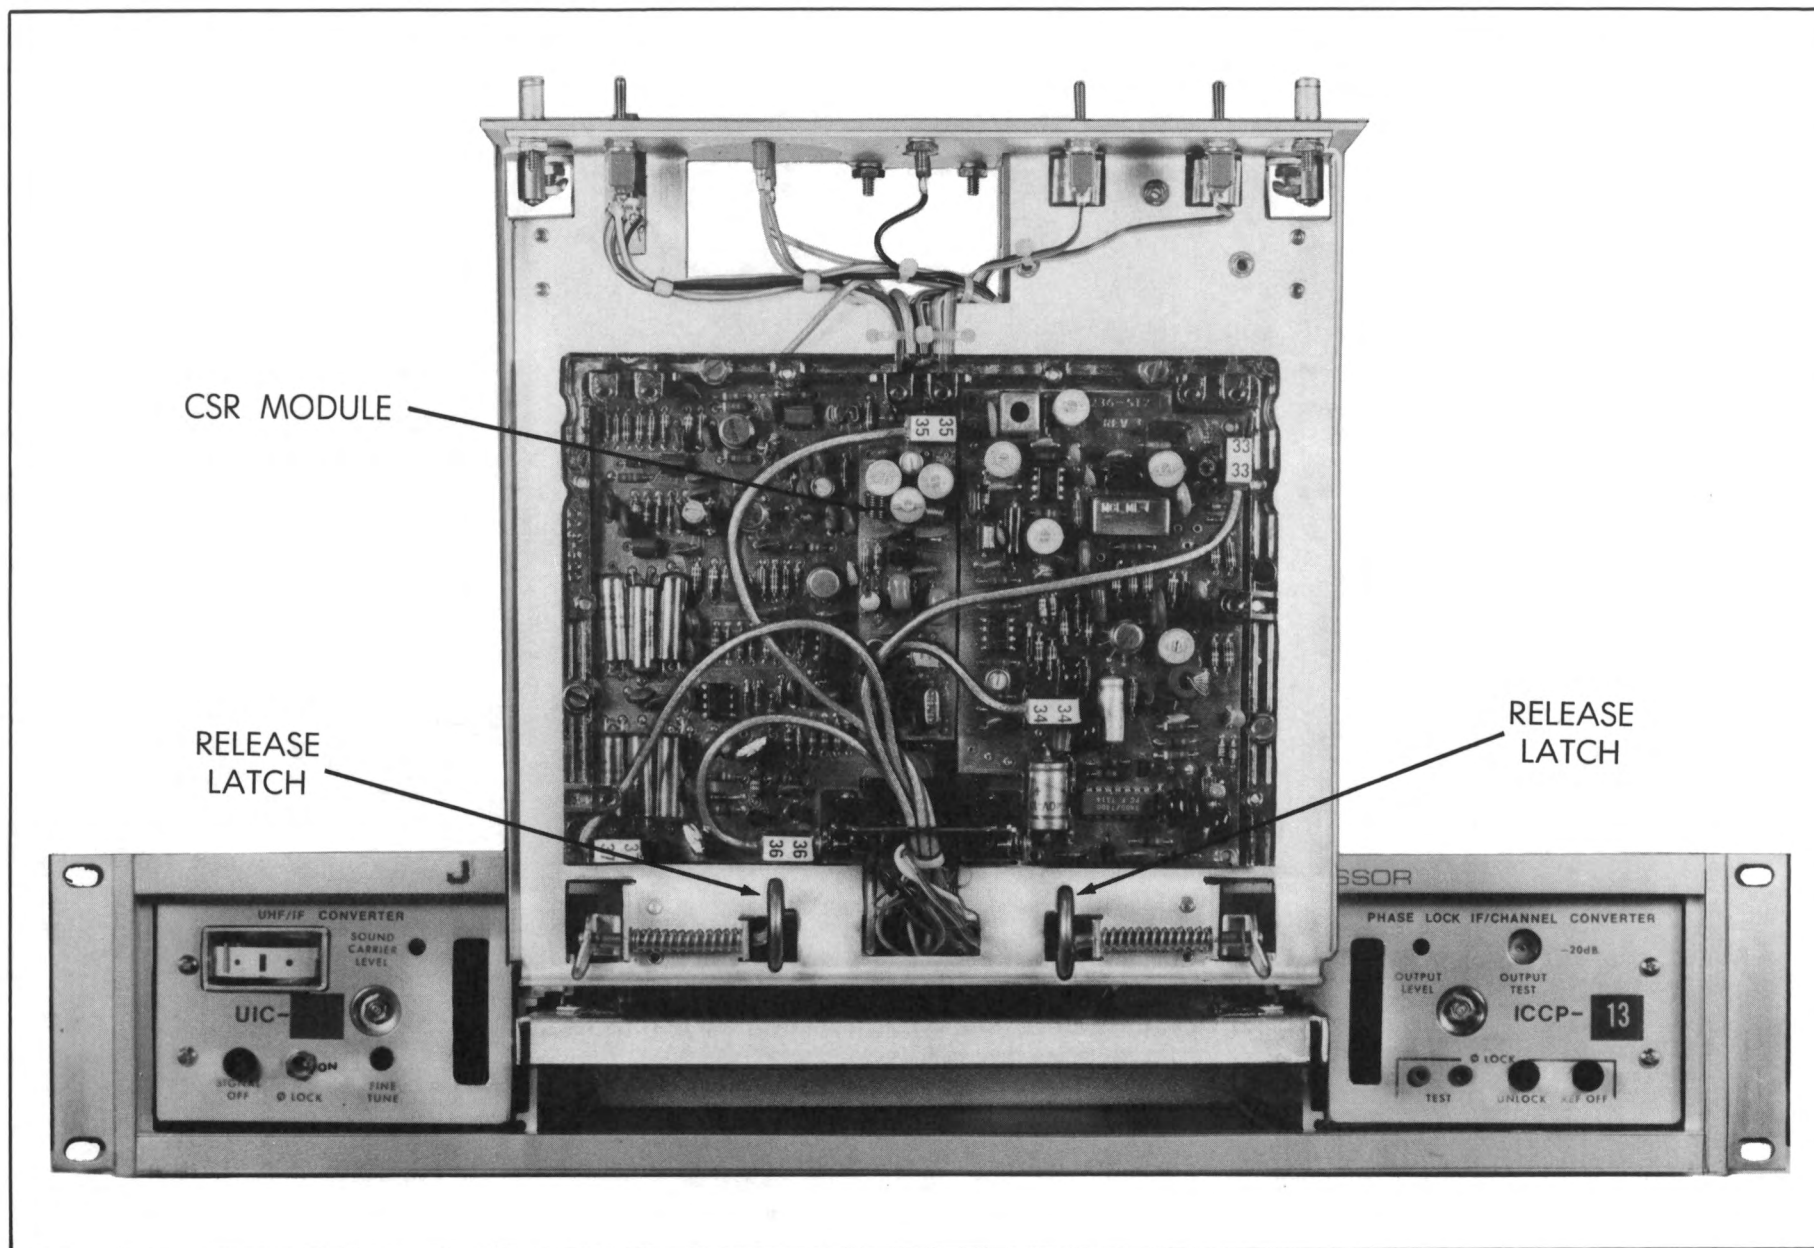

Fig. 7 PROCESSOR WITH CSR MODULE INSTALLED
- 1.1.2 Remove the bottom cover from the drawer by removing the holding screws; the CAX module circuit board is now accessible for insertion of the CSR module. For easy insertion, first remove jack No.35 from its pins on the CAX board, then plug the CSR straight into the CAX board as illustrated in Fig. 7. Return jack No. 35 to its former position. Refer to the bottom coversilk screen and set switch plugs P201 and P202 as required by system design. Replace the cover.